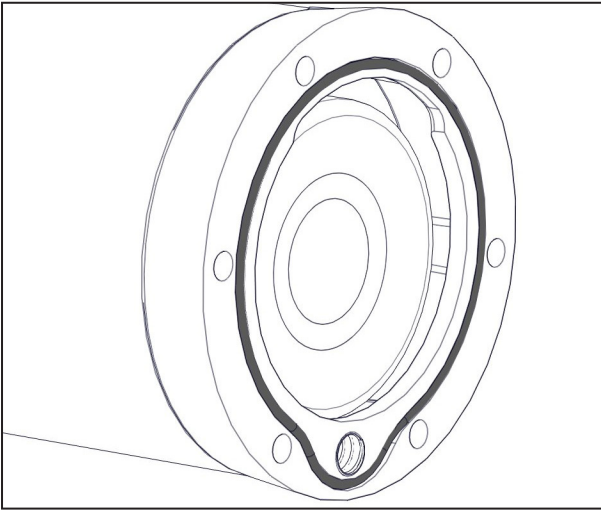

Figure 36 — Blowdown cap O-ring
- ☐ Install the blowdown cap Viton O-ring in the AOST (Figure 36).